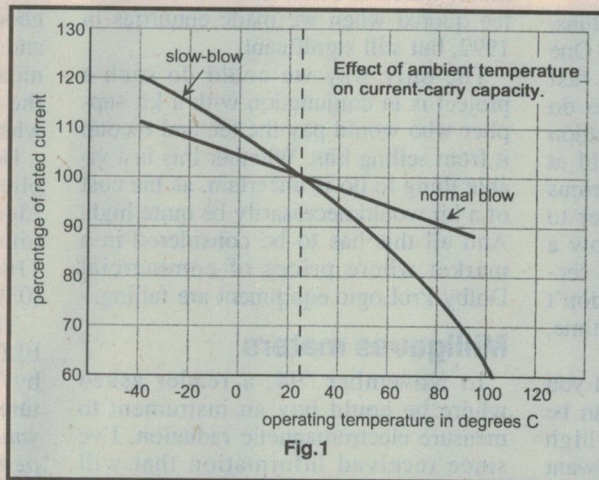

Fig.1
**Current rating:** The most essential thing to know about a fuse is its current rating, which is the current the fuse can carry continuously at a normal operating temperature (between 20° and 25°C). This rating changes when the operating temperature of the fuse changes, as shown in the graphs in Fig.1.
**PC Interface for DSE's Teletext Decoder** (June 1993): The diagram shown on page 66 (Fig. 1) is a little misleading, as it shows the two pullup resistors (R64 and R65) still connected to R66 and R67 after the modification has been completed. Since the new components are connected in series with R66 and R67 (by lifting one end of each resistor), the pullup resistors should be shown at the IC8 end of the communications bus — R64 at pin 13, and R65 at pin 12.